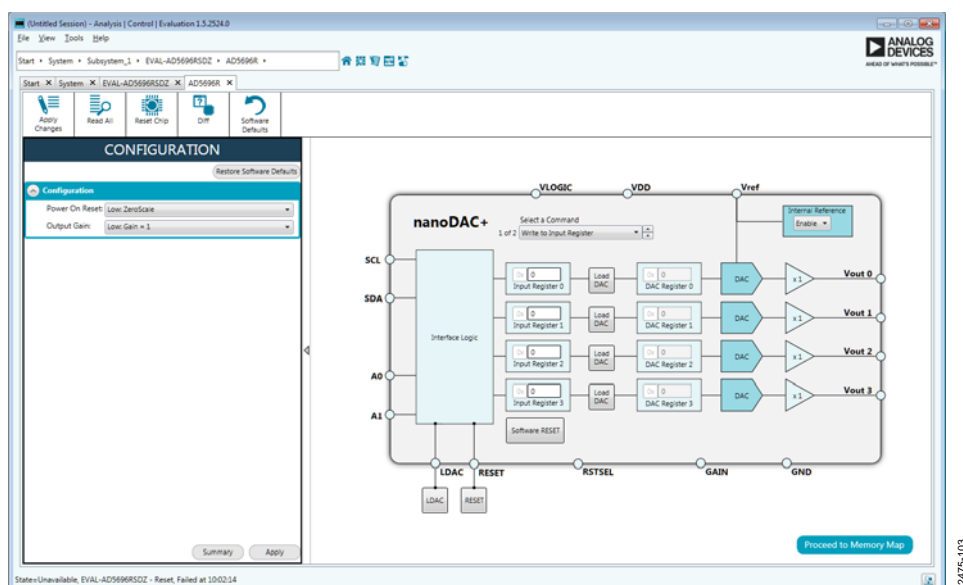

Figure 3. Chip Block Diagram of the AD5696R
4. Double click the **AD5696R** chip to access the chip block diagram. This view provides a basic representation of functionality of the board. The main function blocks of the board are labeled in Figure 3.